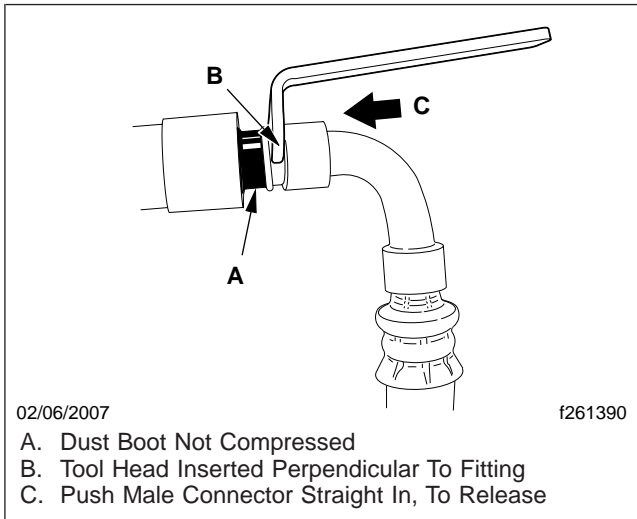

Fig. 2, Quick-Disconnect Fitting with Kent-Moore Tool J-48548 in Place
3. Put the tool on the fitting as shown in Fig. 2.
5. **While holding the male fitting compressed into the female port**, squeeze the flat face of the tool handle toward the male fitting, to release the snap connection; see Fig. 2. Use the tool so that pressure is equal on both ears, where they push against the lower male fitting. Do not twist the tool sideways, or apply unequal pressure to either ear of the tool where it forks around the fitting. The rubber dust boot should compress, releasing the fitting so that it can separate.